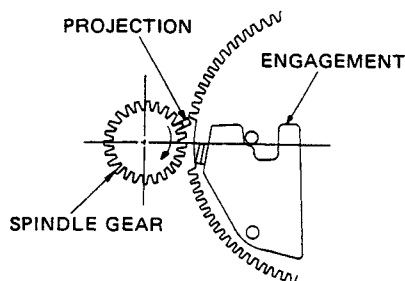

Fig. 5
1. During playing the notch in the main gear and the turntable spindle gear are positioned with respect to each other as is shown in Fig. 5 so that the main gear will not rotate when the turntable turns. The projection will be disengaged from the engagement.
3. Because it is lightly placed on the lower trip the engagement is easy to move. The relative positions of the engagement and the projection are shown in Fig. 5. Because of this when the record pitch is small, towards the end of the recorded section, the engagement only makes small advances and these are reversed by the projecting tip so that turntable spindle gear and main gear remain disengaged and the auto-return mechanism does not start to operate.
6. When the main gear ceases turning, the relative positions of the parts return to those shown in Fig. 5, with the main gear stationary even when the spindle gear is turning.